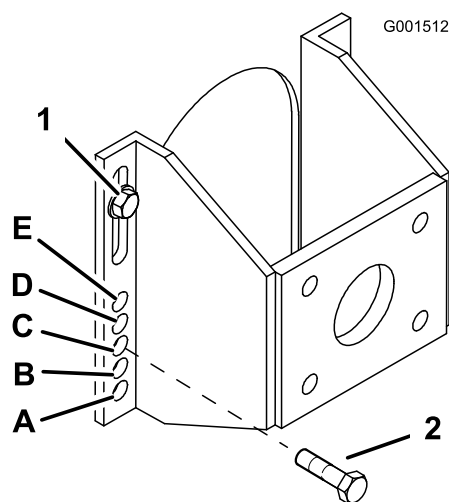

Figure 16
5. Loosen, but do not remove, the 2 top axle bolts (Figure 16).
6. Remove the 2 lower axle bolts (Figure 16).
7. Raise or lower the mounting bracket, so that you can install the 2 axle adjustment bolts in the desired hole location (Figure 16). A tapered punch can be used to help align the holes.